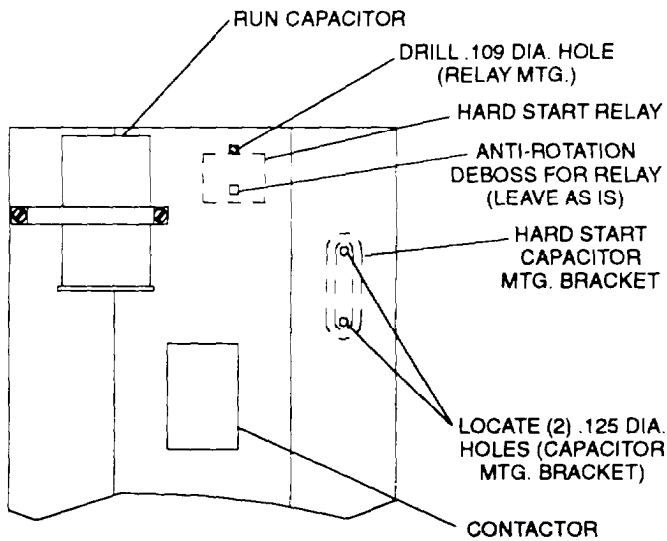

FIGURE 1 - COOLING UNIT CONTROL BOX
- At the upper rear of the box, slightly to right of center there is a dimple. Drill a .109 dia. hole in this dimple which will be used to mount the start relay. See Figure 1.
- At the right side of the box slightly above the level of the top of the contactor are two (2) screws. These screws will be removed and discarded when installing the hard start capacitor mounting bracket with screws included in the kit.
NOTE: If you do not find two screws in this location, you will find two (2) dimples as a guide to the screw location for mounting the hard start capacitor mounting bracket. Drill a .125 dia hole in each dimple to fasten the hard start capacitor mounting bracket. See Figure 1 as needed.